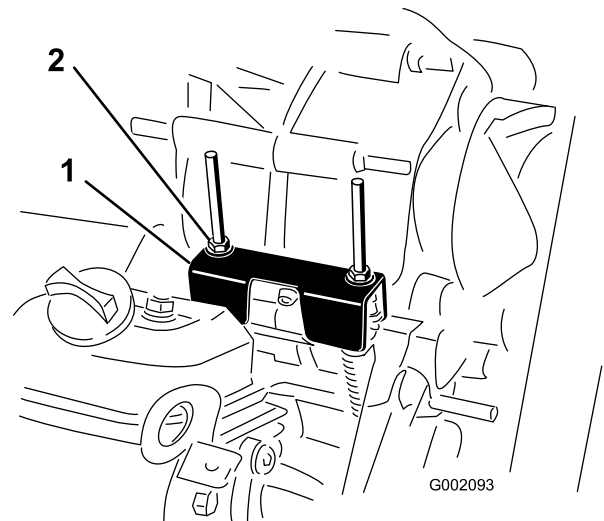

Figure 40
When performing routine maintenance and/or engine diagnostics, the transaxle must be shifted into neutral (Figure 40). The vehicle has a neutral position on the shift lever, which controls the neutral in the transaxle. The following steps should be taken to make sure that the neutral shift lever operates the transaxle neutral correctly:
2. Ensure that the neutral bracket is in the neutral position (level) by turning the drive clutch (Figure 40). The vehicle should not roll back and forth. If it does, manually move the neutral bracket to the neutral position.
3. Tighten one of the locknuts (Figure 40) just enough to take the slack out of the shift cable.